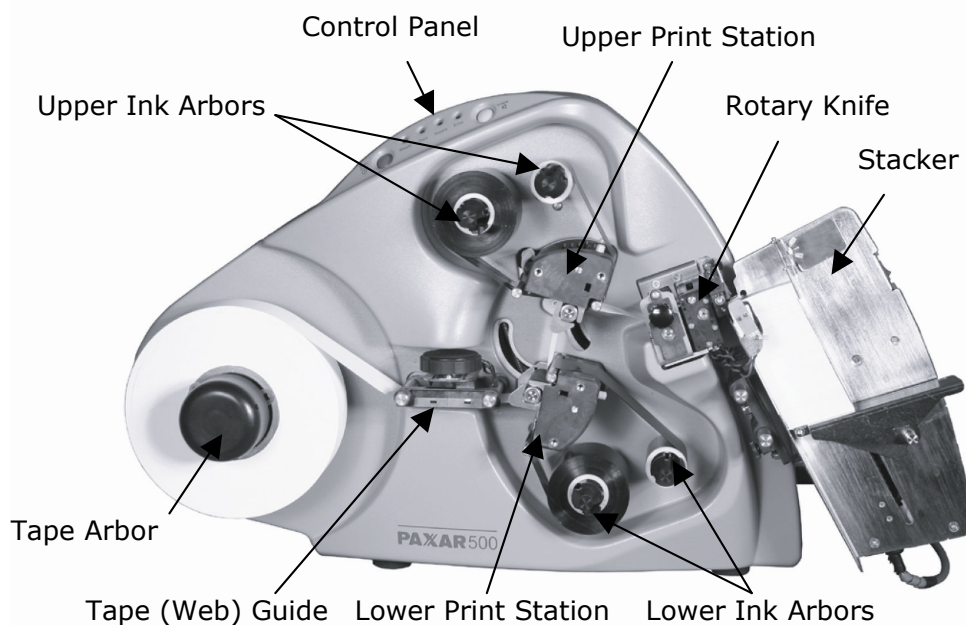

Figure 3. AVERY DENNISON SNAP 500 Printer
**NOTE:** Please take some time to become familiar with the printer's major components and their functions. Refer to Figure 3.